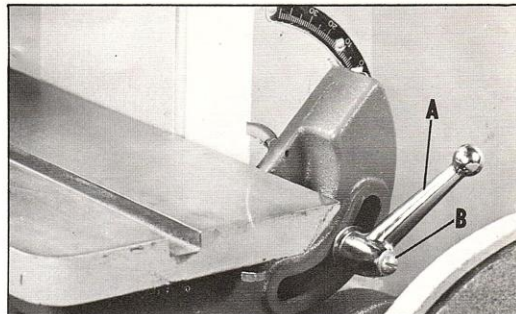

Fig. 8.
To tilt the table, loosen the table tilting handle (A) Fig. 8, move the table to the desired angle, and lock the table tilting handle. The table tilting handle can be repositioned by loosening the screw (B) four or five turns, pull out the table tilting handle (A) and reposition it on the serrated nut located underneath the handle. Positive table stops are provided at 90° and 45° . To adjust the stops, proceed as follows: